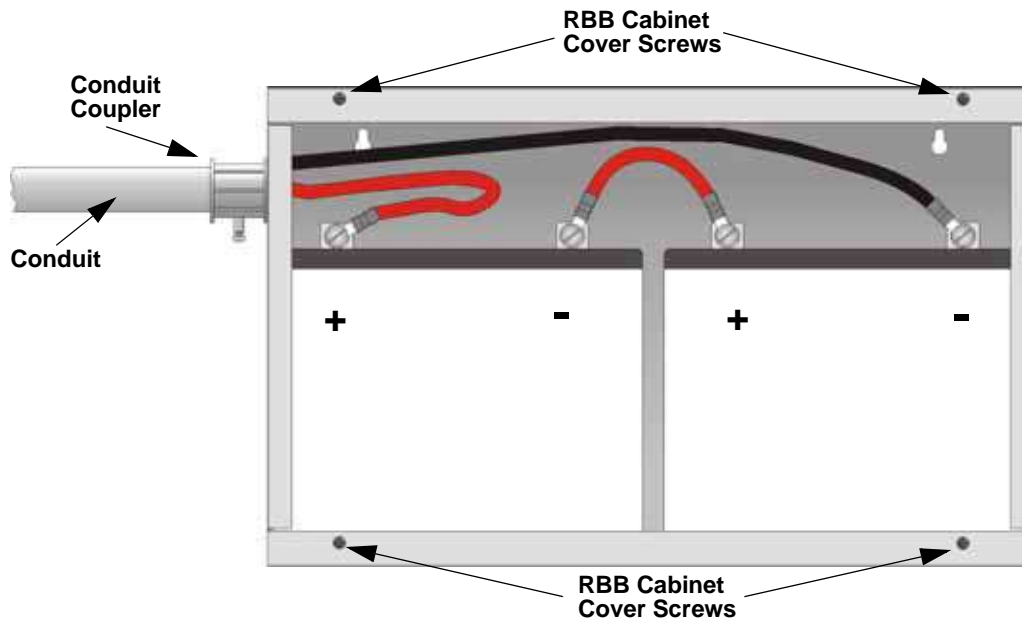

Figure 4-5 Battery Connections in the RBB Cabinet
3. Run extended battery cable from control panel cabinet through conduit to RBB cabinet. See Figure 4-5.
Note: Figure 4-5 is an example of how the wire connections can be routed. However, any other cabinet knock-outs (on either the main control panel or the RBB cabinet), that are not previously being used may be utilized to connect conduit between the two cabinets.
4. Connect battery leads to the backup battery terminals. See Figure 4-5.
5. Insert the RBB cover screws into the cover mounting holes (see Figure 4-5).